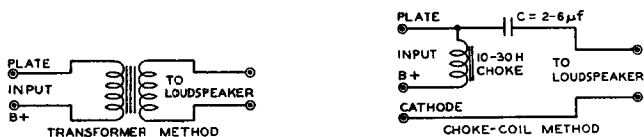

Fig. 47
Output-coupling devices are of two types, (1) choke-condenser and (2) transformer. The choke-condenser type consists of an iron-core choke with an inductance of not less than 10 henrys which is placed in series with the plate and B-supply. The choke offers a very low resistance to the d-c plate current component of the signal voltage but opposes the flow of the fluctuating component. A by-pass condenser of 2 to 6 μf supplies a path to the speaker winding for the signal voltage. The transformer type is constructed with two separate windings, a primary and a secondary, wound on an iron core. This construction permits of designing each winding to meet the requirements of its position in the circuit. Typical arrangements of each type of coupling device are shown in Fig. 47. Examples of transformers for push-pull stages are shown in several of the circuits given in the **CIRCUIT SECTION**.